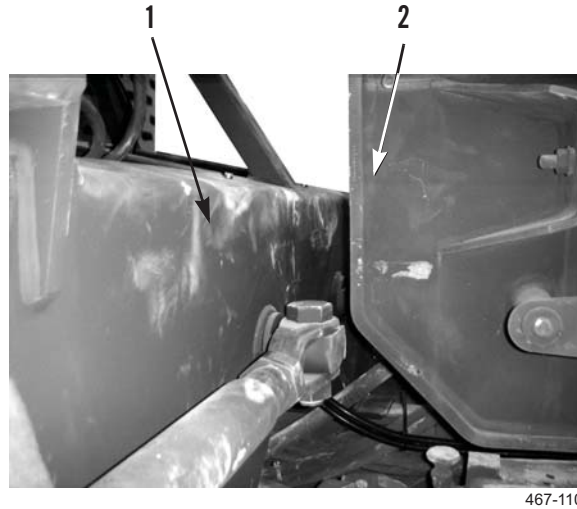

Figure 33. Distance Between Stowage Assembly and Hook Arm.
33. Adjust placement of stowage assembly (Figure 33, Item 1) on frame until distance between stowage assembly and front edge of hook arm (Figure 33, Item 2) measures 3 1/8 in. (80 mm).